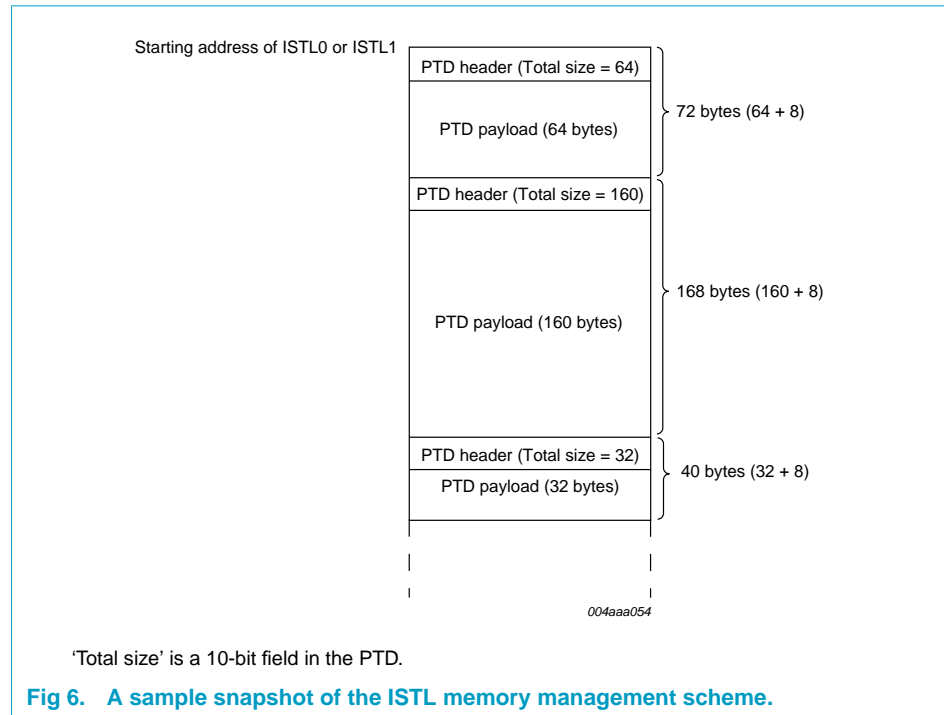

**Fig 5. A sample snapshot of the ATL or INTL memory management scheme.**
**Figure 5** provides a snapshot of a sample ATL or INTL buffer area of 256 bytes with a block size of 64 bytes. The HCD may put a PTD with payload size of up to 64 bytes but not more. Depending on the ATL or INTL buffer size, up to 32 ATL blocks and 32 INTL blocks can be allocated. Note that a portion of the ATL or INTL buffer remains unused. This is allowed but can be avoided by choosing the appropriate ATL or INTL buffer size and block size.